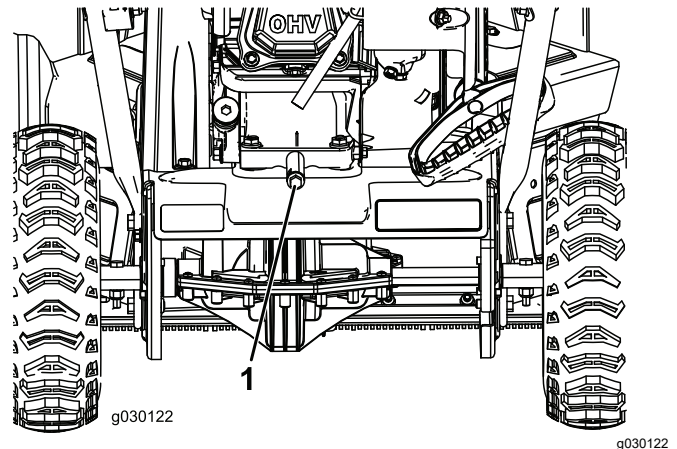

Figure 18
2. Place an oil-drain pan under the oil-drain plug, remove the oil-drain plug, and tip the machine backward and drain the used oil in the oil-drain pan (Figure 18).